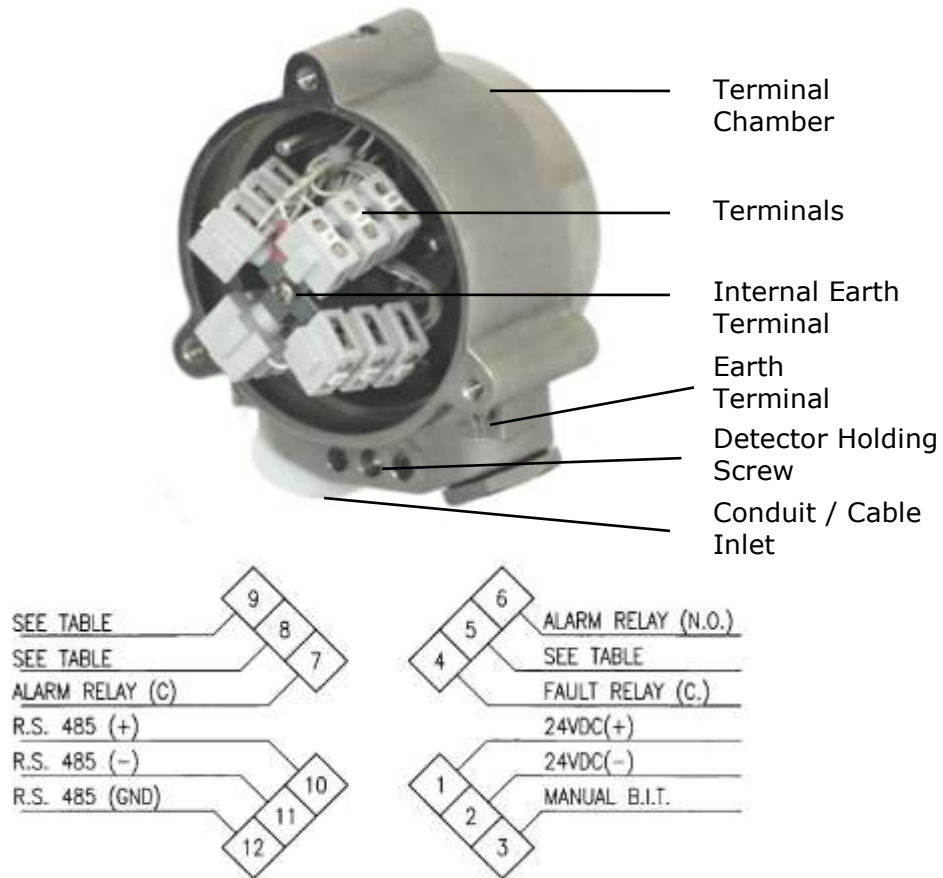

Figure 7: Detector with Cover Removed
This section describes how to connect the electric cabling to the detector (Figure 7).
- 5 Connect the wires to the required terminals on the Terminal Board according to the wiring diagram (Figure 7) and Table 17.
- 8 Check the wires for secure mechanical connection and press them neatly against the terminal to prevent them from interfering while closing the back cover (Figure 7).